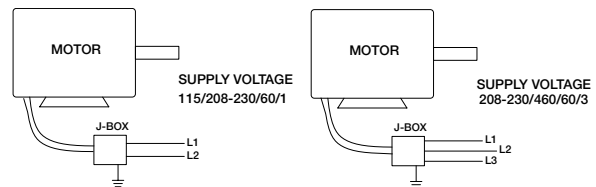

Figure 6 - Typical Wiring Diagram
11. Mount and wire safety disconnect switch under motor cover. Wire control switches at ground level, refer to Figure 6.